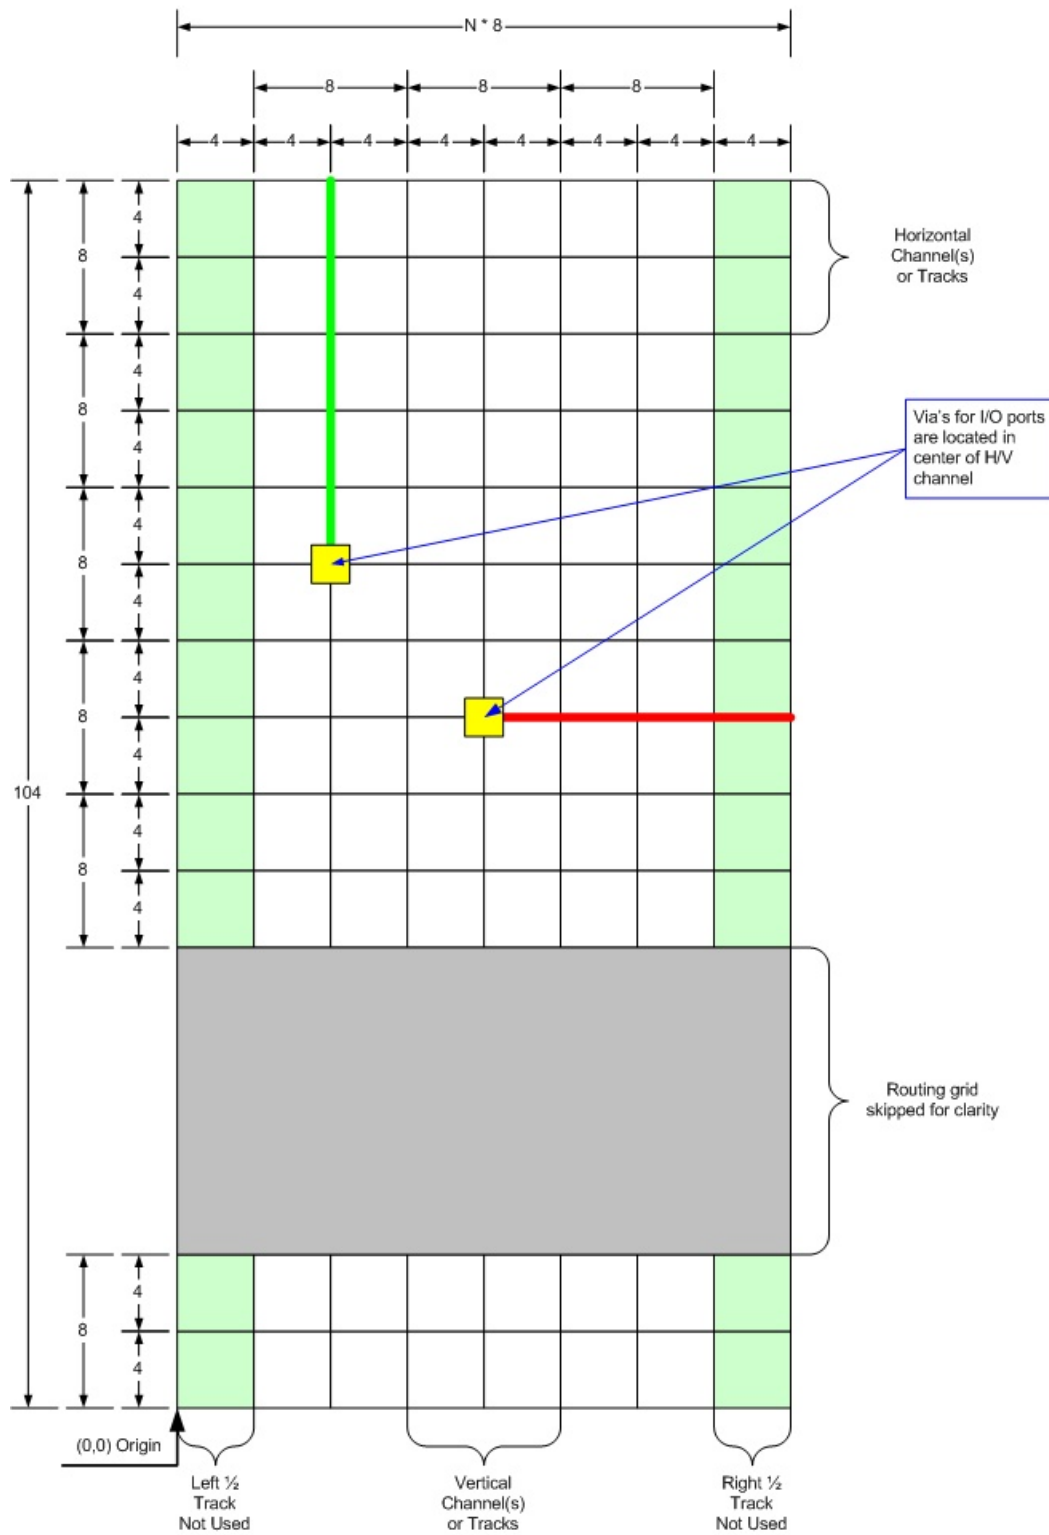

Figure 2 Routing Grid Layout
- Per Figure 2, to help the routing tools, all I/O ports should fall in the center of horizontal (x-direction) and vertical (y-direction) routing tracks or channels with a pitch of 8λ .
- As shown in Figure 2, the first and last $\frac{1}{2}$ vertical track (4λ) is not used and creates a vertical “feed through” routing channel when cells abut.
- a. As shown in Figure 2, routing is done in the channels between cell rows